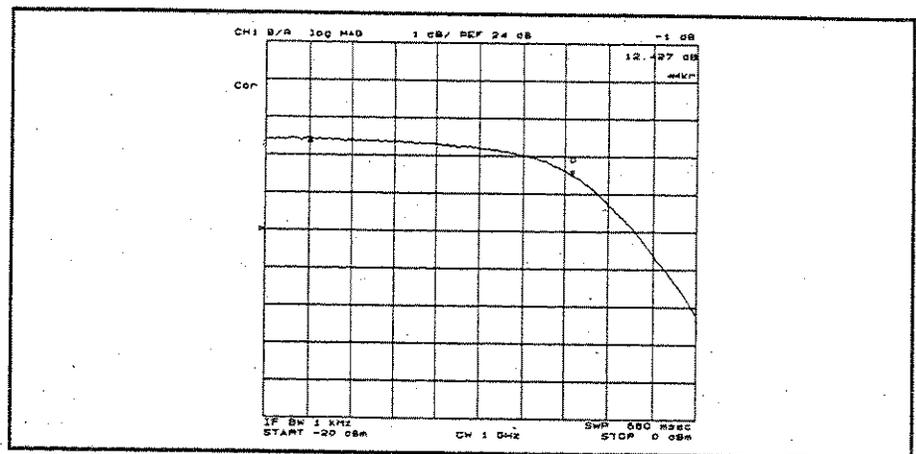

Figure 4-23. Gain Compression
9. Press **Search** **TARGET** **-1** **(x1)** to search for the point of the gain compression. (See Figure 4-23.)